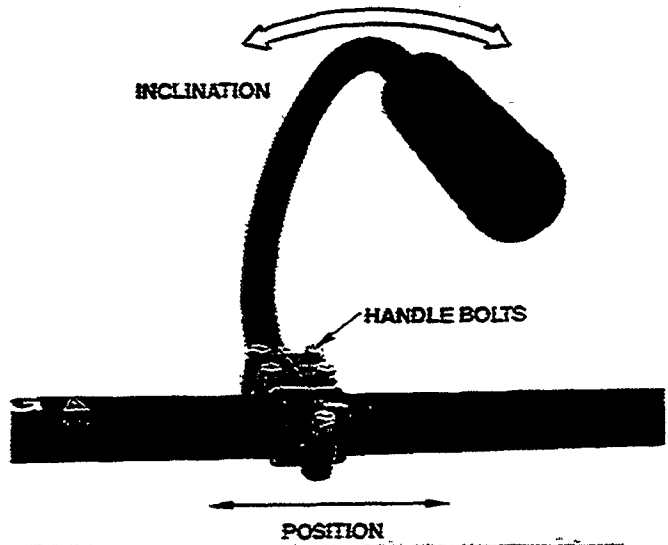

Figure 2
- Loosen the five (5) bolts on the handle bracket mounted on the drive shaft tube (Do not remove screws completely).
- After installing the mid-handle in its bracket, retighten the five (5) bolts softly.
- Adjust the inclination and position of the handle and tighten the bolts firmly. (Figure 2)